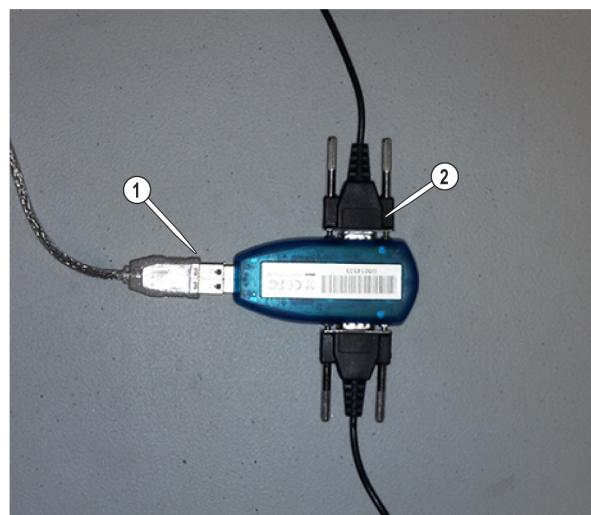

Figure 42
4. Plug the **COM port end** of the **cable** from the **X-axis indicator** into the **port** (Figure 42) [2] on the **USB/COM port adapter**. The **COM port adapter** will auto detect which **axis indicator** is plugged in.